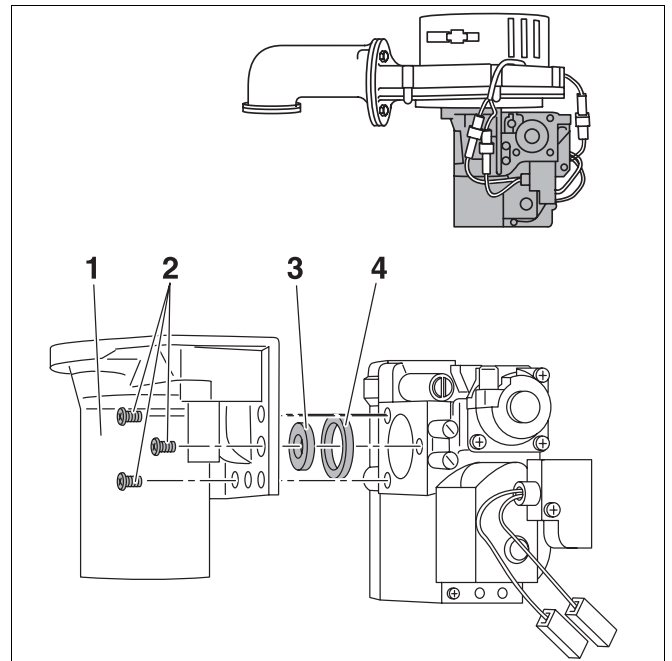

Fig. 63 Replacing a gaz nozzle
Conversion to another gas type is implemented by installing/removing a gas nozzle (fig. 63, item 3) of the appropriate gas nozzle diameter (table 9).
- Undo the three screws (fig. 63, item 2) on the long side of the gas fitting.
- Insert new seal (fig. 63, item 4).